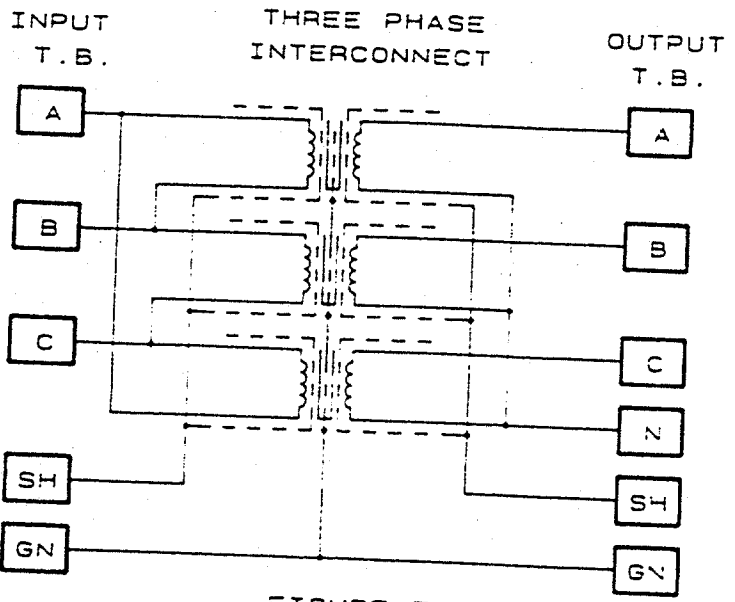

FIGURE 7
Figure 7 shows a DELTA primary-WYE secondary type three phase HIT. Several added benefits are derived from this type connection such as reducing harmonic voltage distortion and improved load balance presented to the source. The secondary loads should be balanced as close as practical to effectively minimize current flow in the neutral line. In this configuration, if one phase of the DELTA source is grounded, the primary shield (SH) should be connected to that point; if not, the primary shield should be connected to the ground terminal (GN) which should subsequently be connected to earth ground. This secondary shield (SH) should be connected to neutral (N).